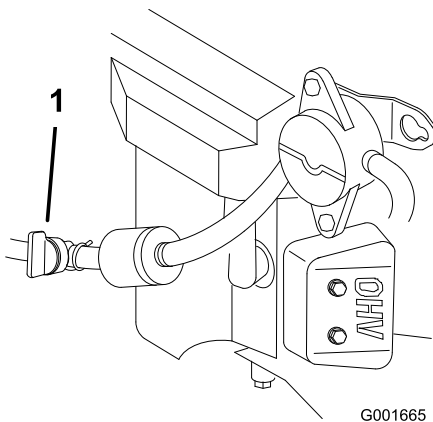

Figure 6
The machine has 2 fuel tanks, one on the left side and the other on the right side. Each tank connects to a check valve and then to a tee. From there a common fuel line leads to the engine (Figure 6).
- Close the fuel shut off valve before transporting or storing the machine (Figure 6).